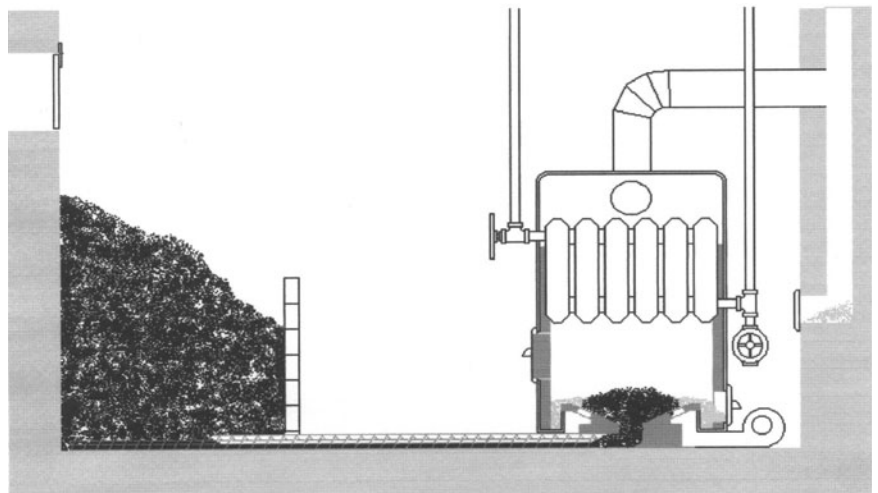
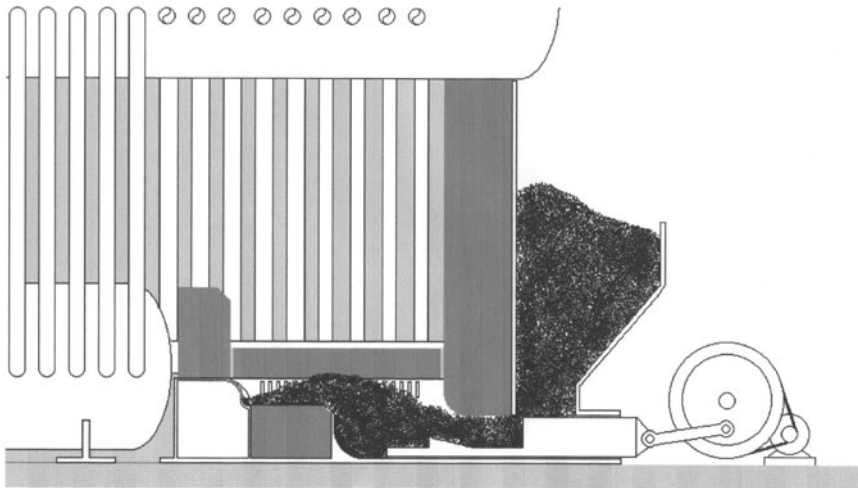
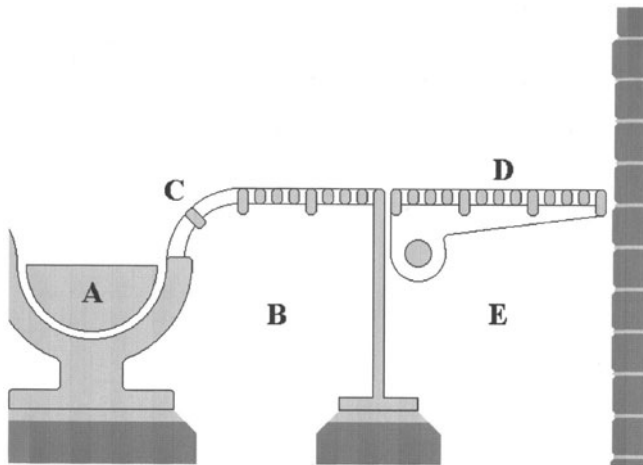

Figure 10-57. Coal screw conveyor.
Figure 10-58. Underfeed stoker ram.
Figure 10-59. Dump grate.
Stokers come in a variety of forms and have basically been reduced to under feed, traveling grate, and over feed types. The difference in these is how the coal is introduced to the fire. An under feed stoker pushes the coal up into the furnace from below the grate. The coal is removed from storage or a hopper by a screw conveyor (Figure 10-57) or ram (Figure 10-58) which pushes the coal along through the "retort" and against the pile in the bottom of the furnace. As the coal is pushed up, it is mixed with air entering via the tuyeres (C in Figure 10-59), pipes, tubes, or slots in the grate that admit the air into the furnace. The mixture is ignited by coal already burning above the grate. The coal-air mixture partially burns on the grate and completes burning of hydrocarbons vaporized by the heat of the furnace in the space immediately above the grate. Air at the tuyeres and most active portions of the grate is considered primary air and is controlled by dampers supplying the air to the primary air zone (B).
Under feed boilers with screw feeders like the one in Figure 10-57 are still found in homes in Pennsylvania, Ohio, and other coal states. Ram fed boilers can be powered by steam to eliminate the need for electricity. They are also available in sizes up to 100 MMBtu/hr by increasing the number of coal feed locations in a “multiple-retort” stoker. Some people might be surprised to learn that most of the nation’s capitol was heated by those boilers up until the early 1990s. Under feed stokers are capable of burning a wide range of coals with different sizes. The common specification limits fines and particles smaller than one-half inch. The fines sift through the equip-